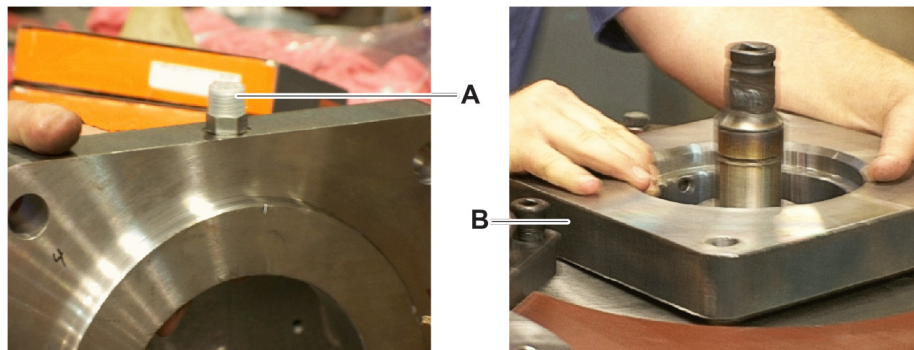

Figure 14
20. Lubricate the shoulder area of the motor adapter (Figure 14, item B) with a thin layer of Ronex-HD grease. Put the O-ring into the shoulder area and apply with grease heavily. Align the motor adapters with the SAE port (item A) for the lubrication pump hosing toward the back of the rotary head housing for the best hose routing.